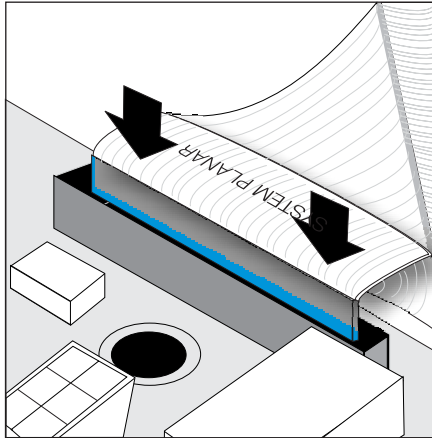

Figure 99. Install service controller cable into the system board
13. *Carefully* install the end of the ribbon cable (marked System Planar) to the system board, being sure to install the cable straight in. See Figure 99. Be sure to verify that the blue line on the cable connector end is not visible.